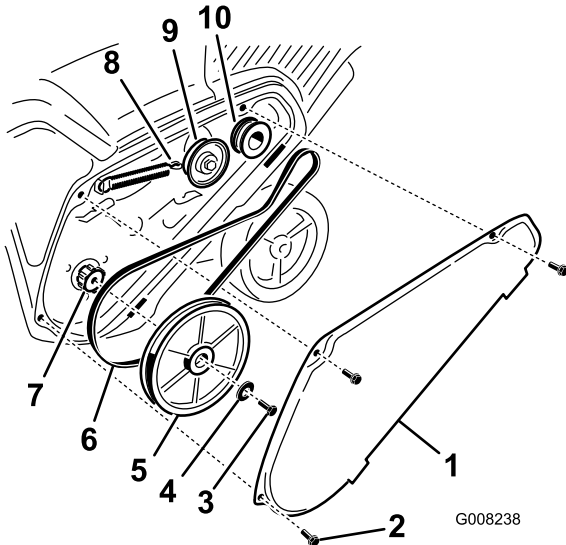

Figure 36
2. Unhook the brake spring from the idler arm to release the belt tension (Figure 36).
3. Remove the screw and curved washer that holds the rotor pulley (Figure 36).
4. Remove the rotor pulley and the drive belt (Figure 36).
Note: Route the new drive belt first around the engine pulley, then the idler pulley, and finally around the loose rotor pulley positioned just above the rotor shaft (Figure 36).
6. Install the rotor pulley onto the rotor shaft (Figure 36).
7. Install the curved washer and the rotor pulley bolt and tighten them securely (Figure 36).